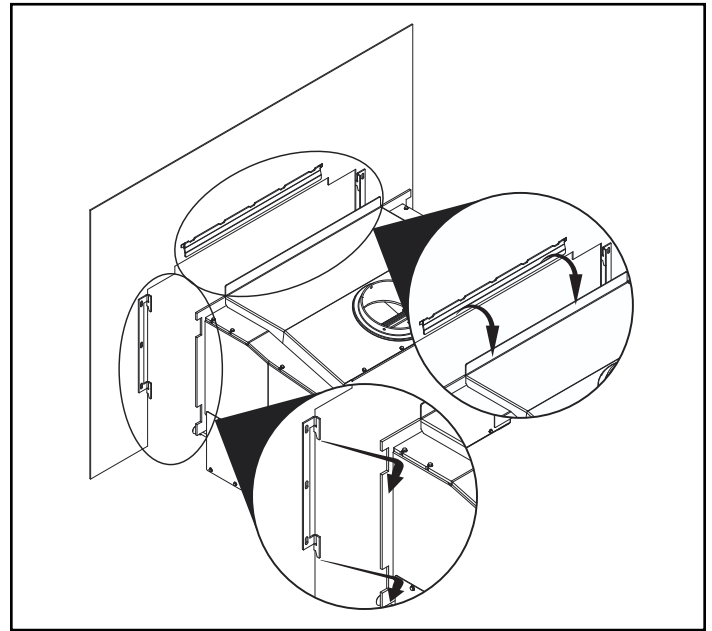

Figure 20.3
4. Lift surround to front of appliance (**Figure 20.3**).
2. Lift surround assembly to front of appliance (**Figure 20.3** on page 20).